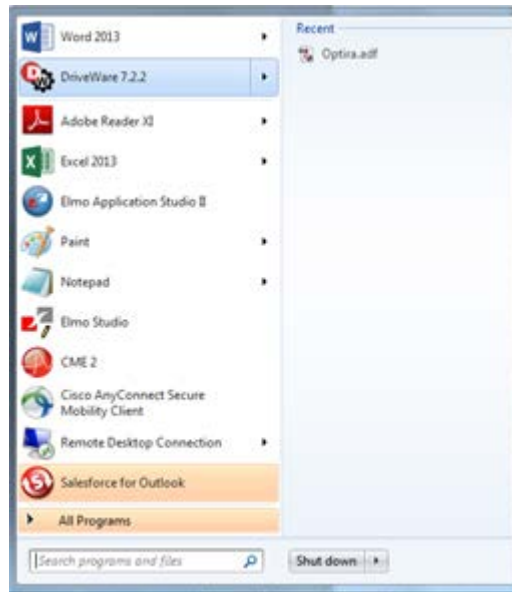

Figure 13
7.1.1 Open AMC's DRIVEWARE software (Figure 13).